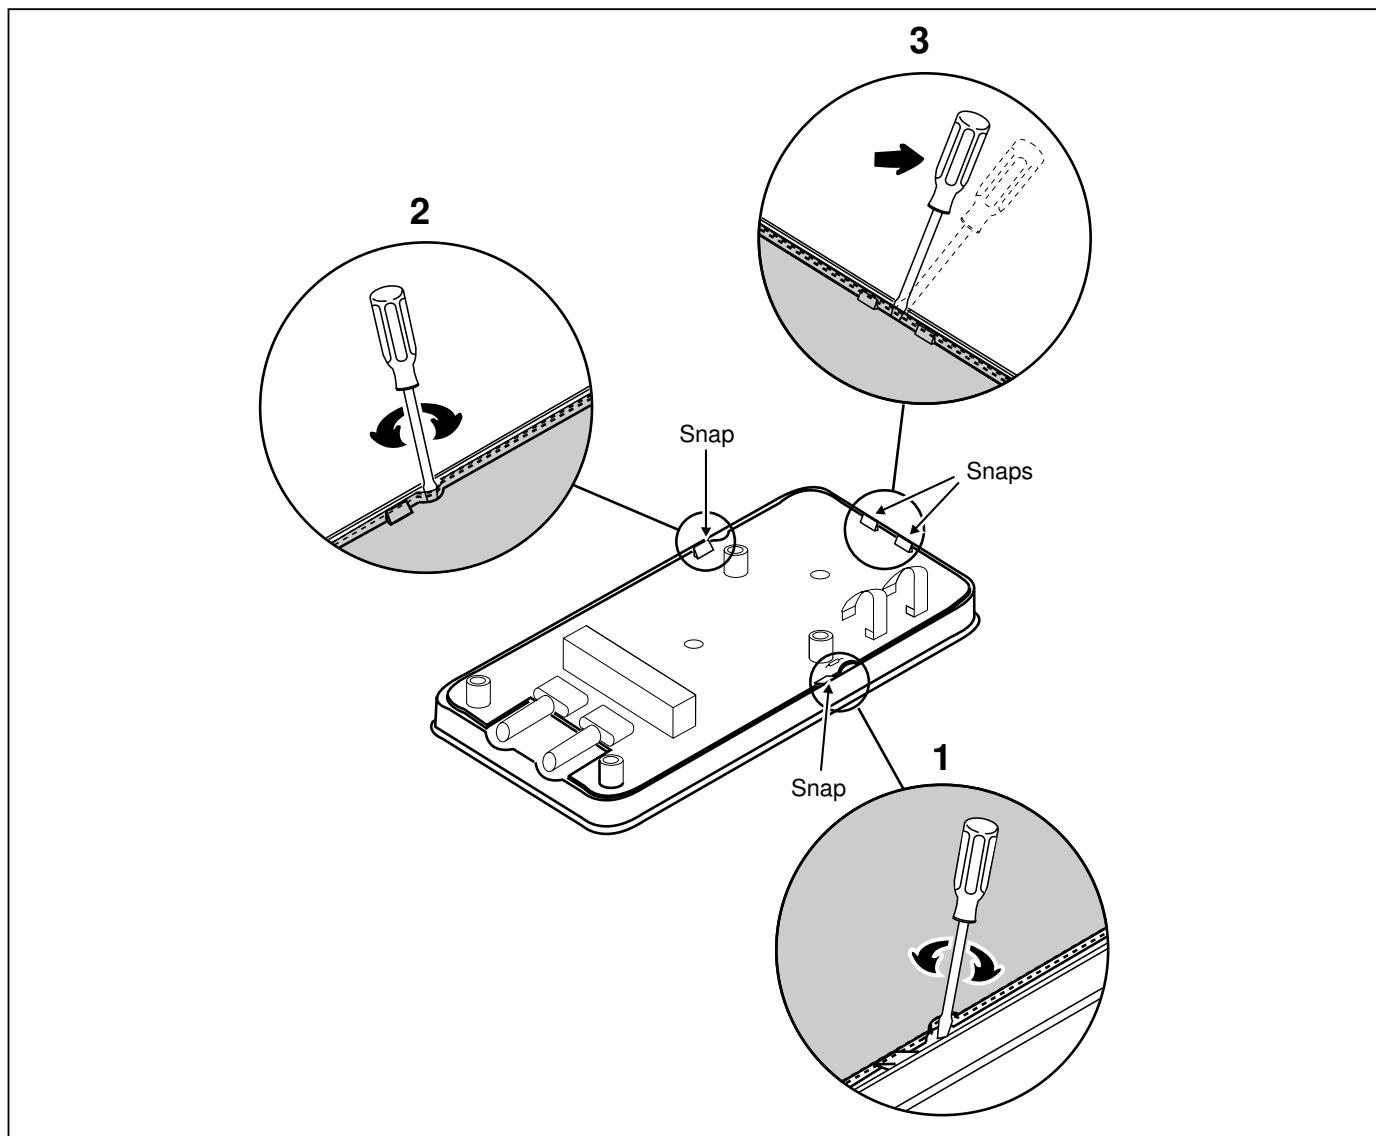

Figure 3. Removing and Reinserting the Printed Circuit Assembly (PCA)
6. Referring to Figure 3, insert a small, flat-blade screwdriver between the edge of the case top and the pca. Gently unsnap the case top from the pca.
User-replaceable parts, are listed in Table 5 and shown in Figure 3.